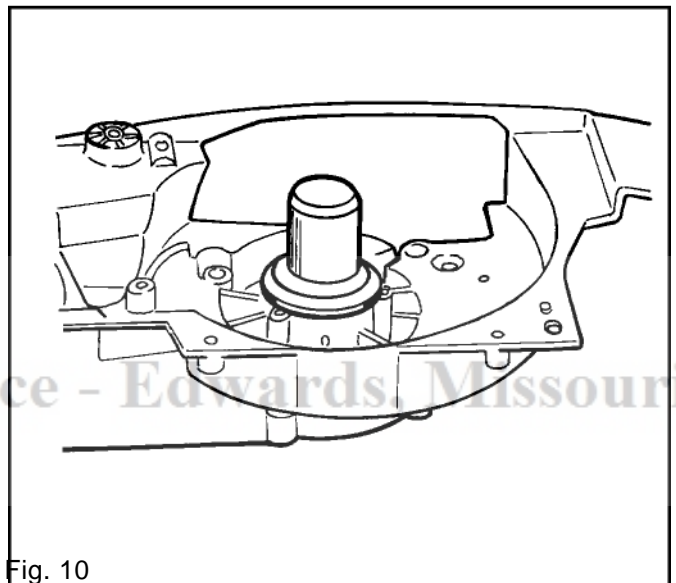

Fig. 10
2. If replacement crankcase seals are to be fitted, grease the seal surfaces and tap them home using tools 502 52 20-01 and 502 52 21-01. See fig. 10. The seals can also be fitted with the crankshaft in place.